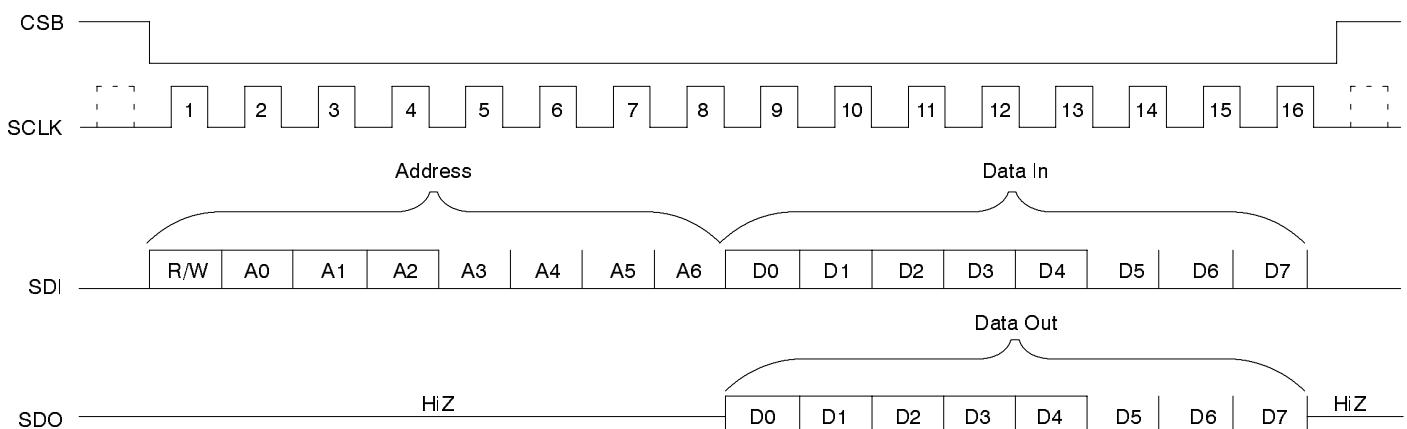

Figure 4. Serial Processor Interface Data Structure
The following instructions, for using the serial interface, are best understood by referring to the diagram in *Figure 4*.
Once the last address bit (A2) has been clocked into the SDI input, the read operation will proceed through an idle period, lasting four SCLK periods. On the falling edge of SCLK Cycle “8” (See Figure 4) the serial output signal (SDO) becomes active. At this point the user can begin reading the data contents of the addressed command register (at Address A2, A1, A0) via the SDO pin. The SDO pin will output this five bit data word (D0 through D4) in ascending order, with the LSB first, on the rising edges of the SCLK pin.
Once the last address bit (A2) has been clocked into the SDI input, the write operation will proceed through an idle period, lasting four SCLK periods. Prior to the rising edge of SCLK Cycle #9 (See Figure 4) the user must begin to apply the eight-bit data word, that he/she wishes to write to the serial input interface onto the SDI input pin. The microprocessor serial interface will catch the value on the SDI pin on the rising edge of the SCLK. The user must apply this word (D0 through D7), serially, in ascending order with the LSB first.
2. *Each Read or Write operation, with the Serial Interface, will require 16 SCLK periods, as depicted in Figure 4.*